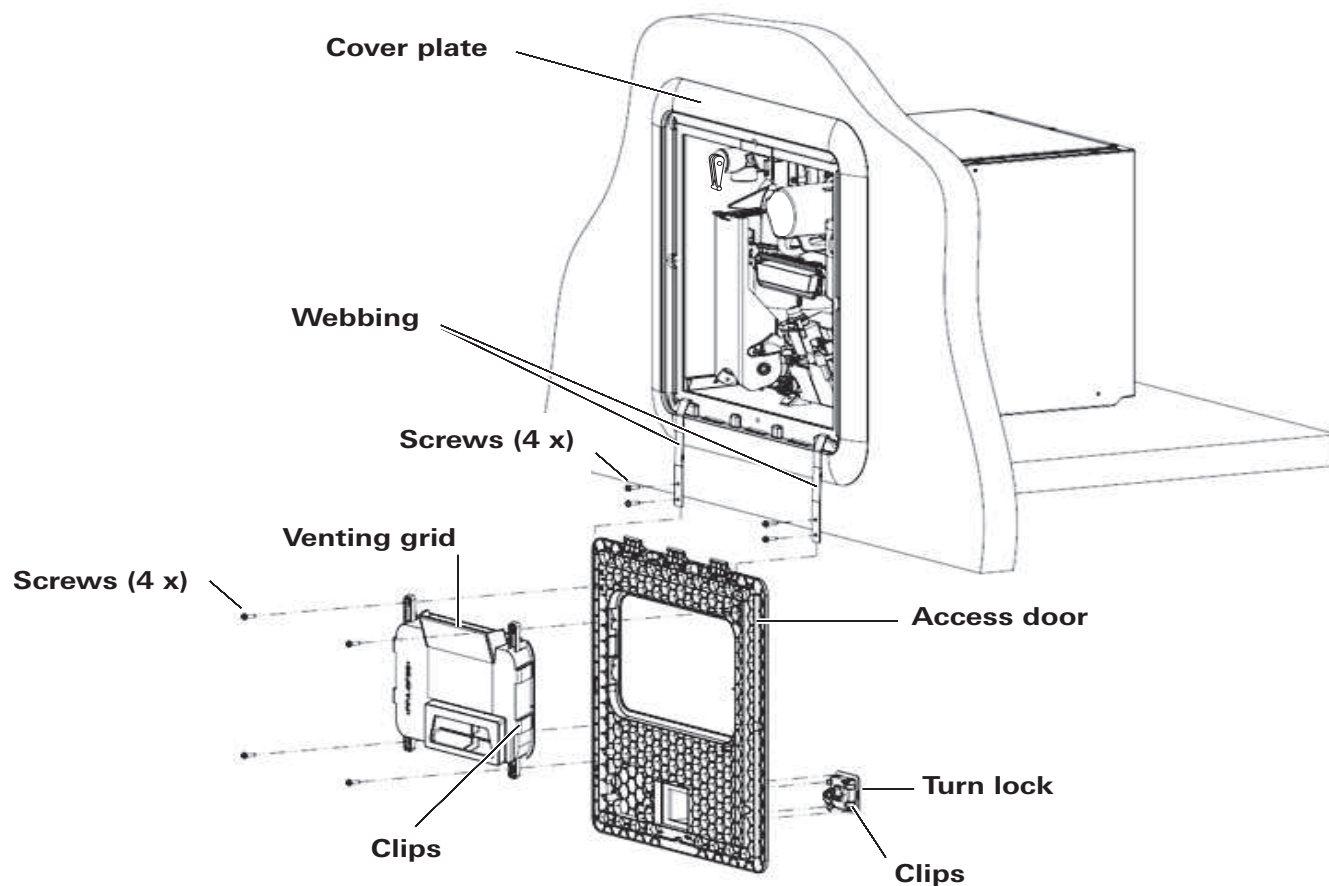

Fig. 37
The following parts (see Fig. 37) must not be painted:
- After removing the screws, depress the four (4) clips on the side of the ventilation grille and remove it as shown in Fig. 37.
To remove the turn lock, depress the four (4) clips and remove it as shown in Fig. 37.